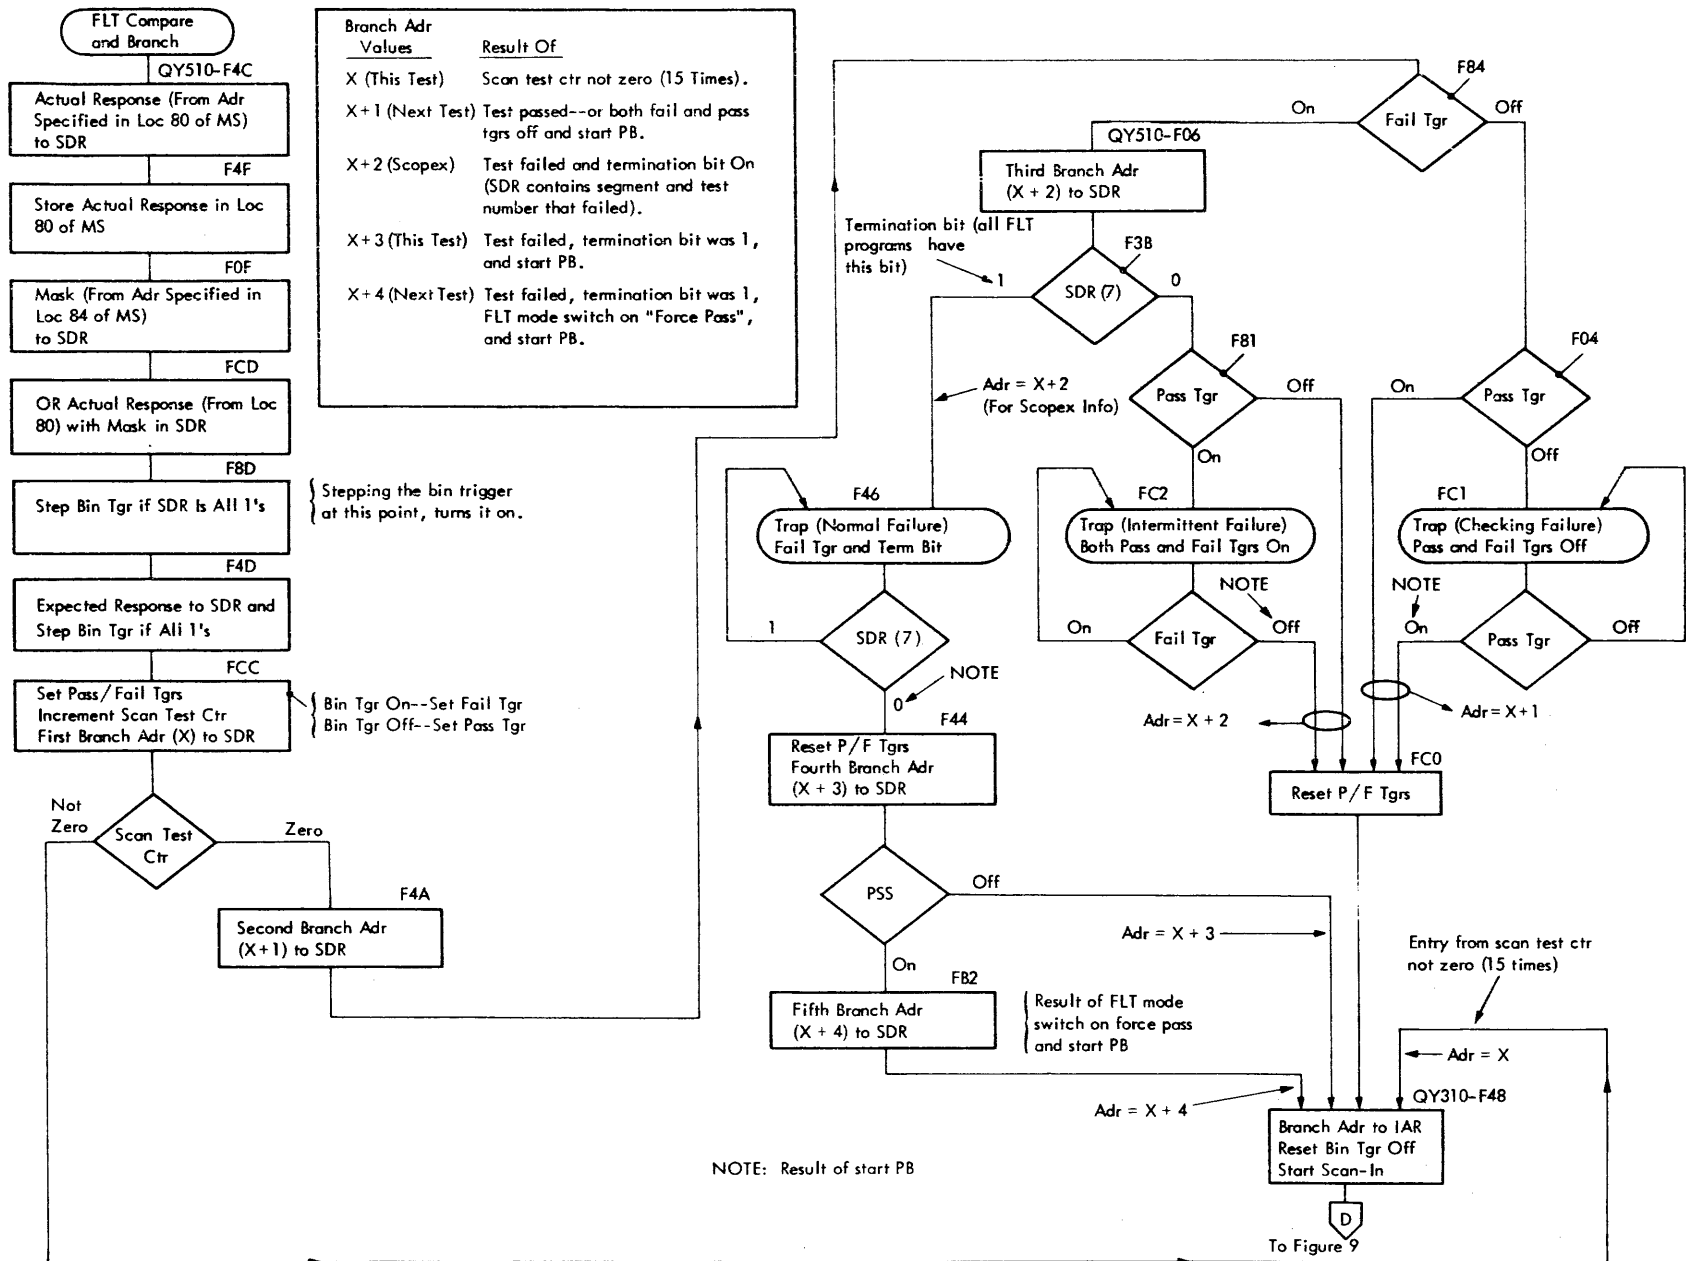

FIGURE 33. FLT COMPARE AND BRANCH KERNEL
1. See Figure 15 for details on all kernels except the FLT compare and branch kernel (Figure 33).
The FLT compare and branch kernel compares the actual response with the expected response and sets the pass/fail triggers on the results. At the same time, the scan test counter is stepped up by one and a return to the beginning of the current test (scan-in) is made. This occurs 16 times except for the 16th pass which goes to the branch section of the kernel instead of returning to the beginning of the current test. See Figure 33, FLT Compare and Branch Kernel.